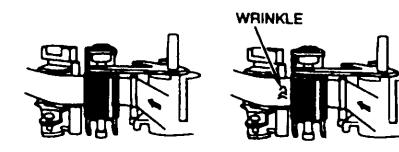

Fig 30.
- Turn the REVIEW ARM height (A) nut so that the edge of the tape barely touches the lower part of the TAKE UP TAPE GUIDE, without any curl or wrinkle between the TAKE-UP TAPE GUIDE and the CAPSTAN SHAFT as shown in Fig 30.
- Confirm there is no curl or wrinkle near the REVIEW ARM's guide. If curl or wrinkle of the tape occurs, slightly turn the (A) nut (Shown in Fig 30) until it disappears.